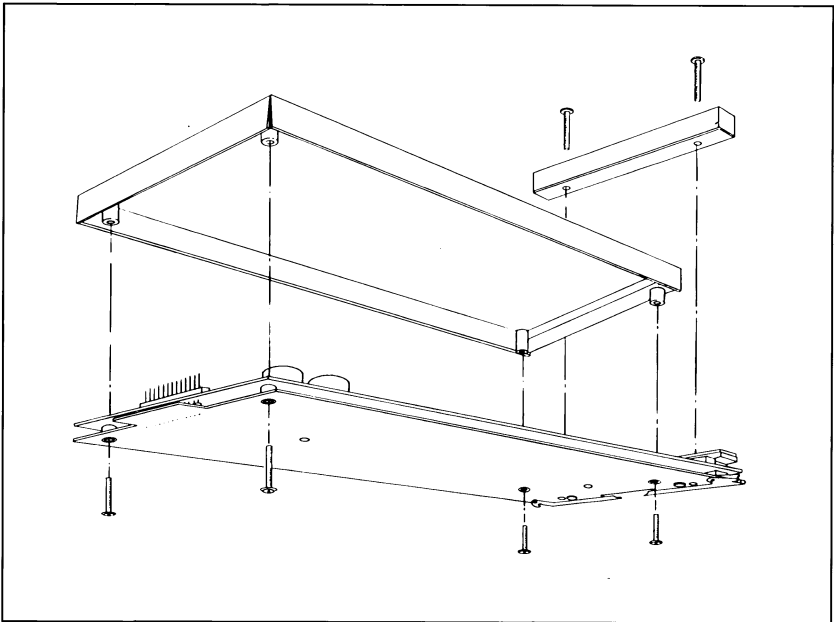

Figure 2-1. Shield Removal
1. Remove the four screws from the shield, as shown in Figure 2-1.